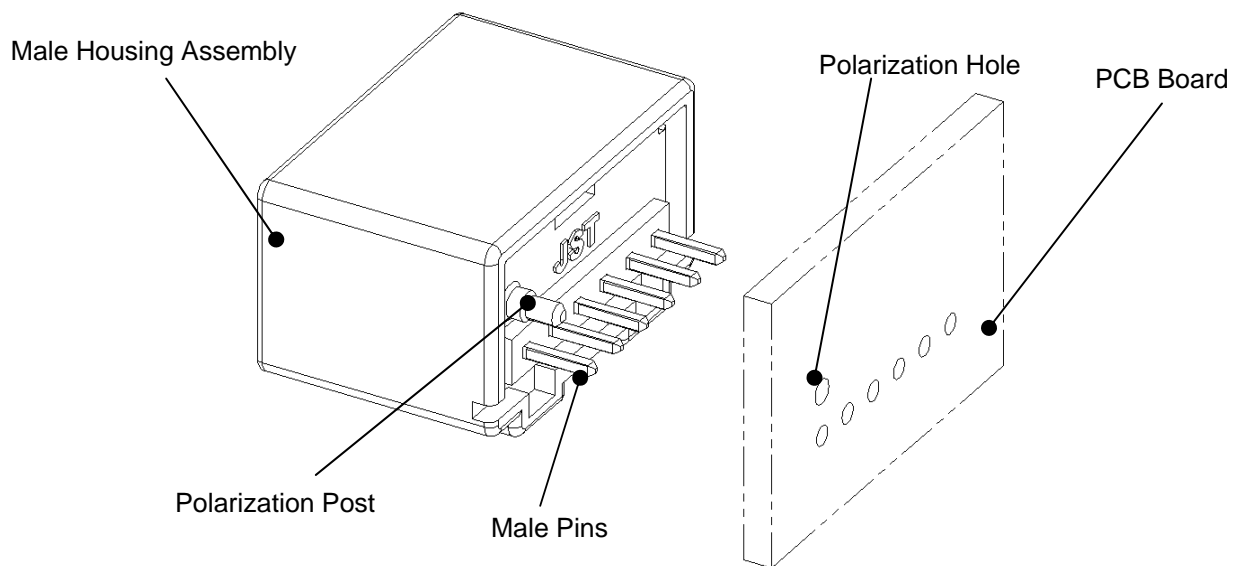

Figure 21. Polarization of the Male Assembly with the PCB Board (e.g. 6 positions)
- c) When placing the male housing assembly on the PCB board, check to see if the Male pins and the polarization pole are in the proper alignment with proper holes on the PCB board. See Figure 21.